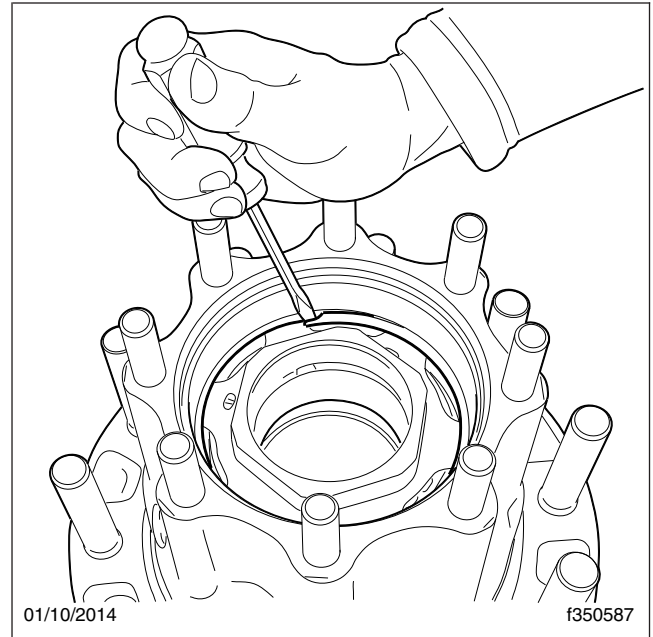

Fig. 2, Removing a Spiral Snap Ring
2. Loosen the spindle nut. As the spindle nut is loosened, it can act as a hub puller. However, if the hub will not come off of the spindle without exceeding 50 lbf·ft (68 N·m) of torque, remove the spiral snap ring (see Fig. 2) and then the spindle nut assembly.